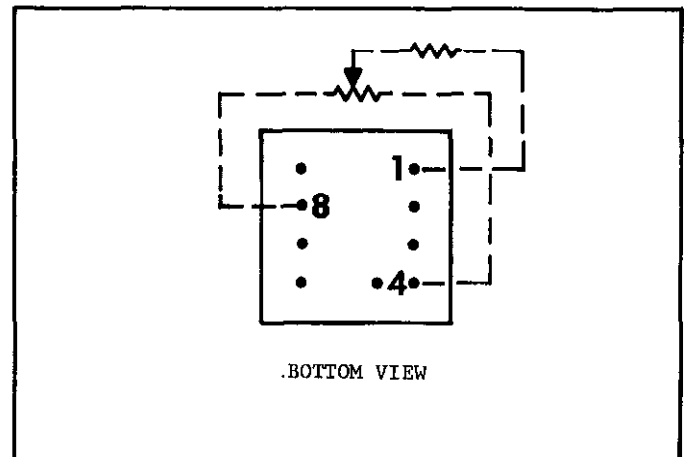

FIGURE 9. Output Zero Adjustment.
2. An alternate approach is to supply a buckout current to the input by means of a high megohm resistor and a potentiometer as shown in Figure 9. To minimize the effect on zero drift the resistance, R, should be at least as large as the resistance of the diode network at minimum input current.